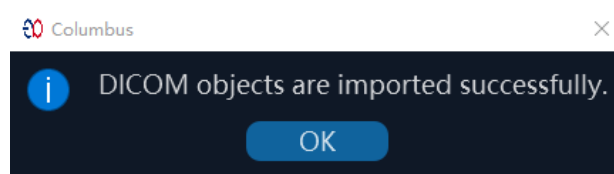

Figure 9-3 Prompt For Successful Import Of DICOMs
- 5) Select the series to be imported and click Import. The selected CT or MRI study series will be automatically imported into the patient record. This process may last for several minutes, depending on the amount of data stored on the CD/DVD. Once the import is complete, a prompt dialog box appears (Figure 9-3). DICOM data in image research is automatically converted to 3D volume rendering (volume image).